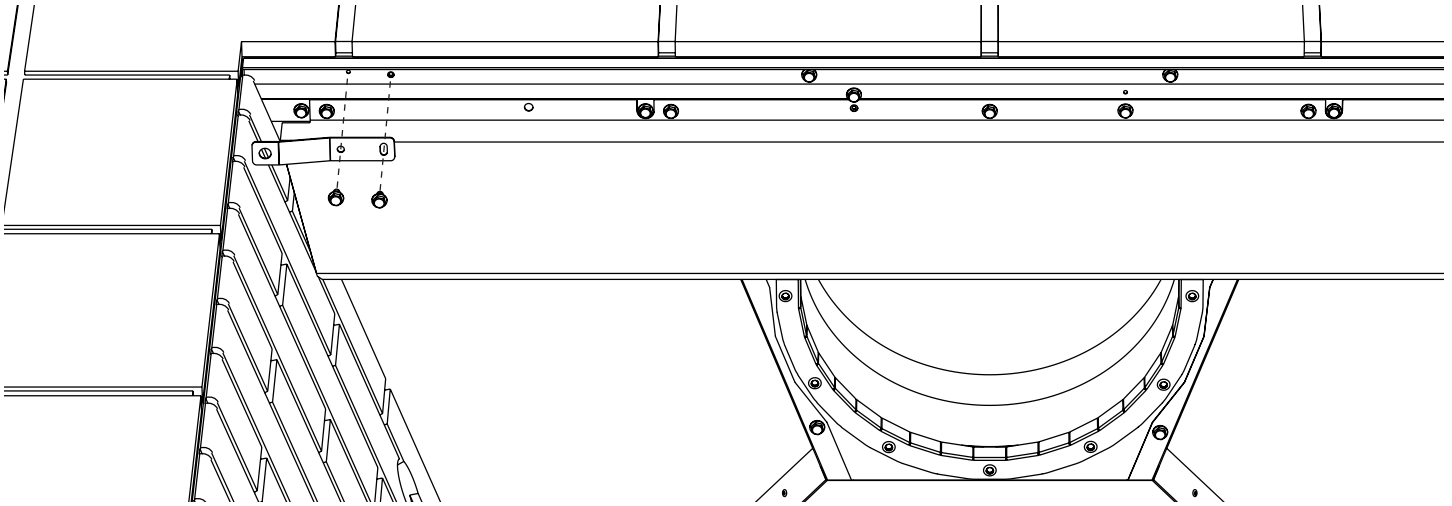

Figure 6
7. Install two (2) Spring Pivots in the top corners of the fireplace opening as shown in **Figure 6**. Use Hex-Head screws from the Hardware Pack or those removed in